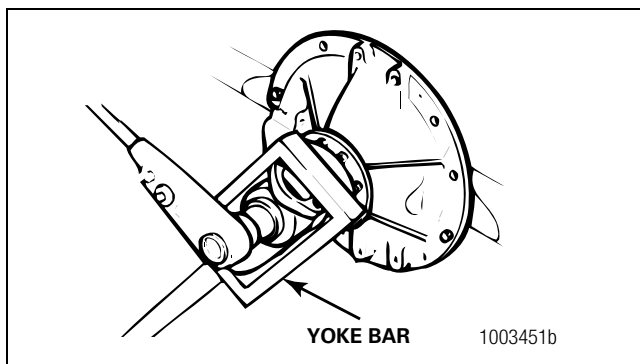

Figure 3.6
2. Attach a flange bar to the flange or place a yoke bar over the input or output yoke to hold the yoke or flange while you remove the pinion nut. Figure 3.6. Refer to Section 10 to make a yoke bar.